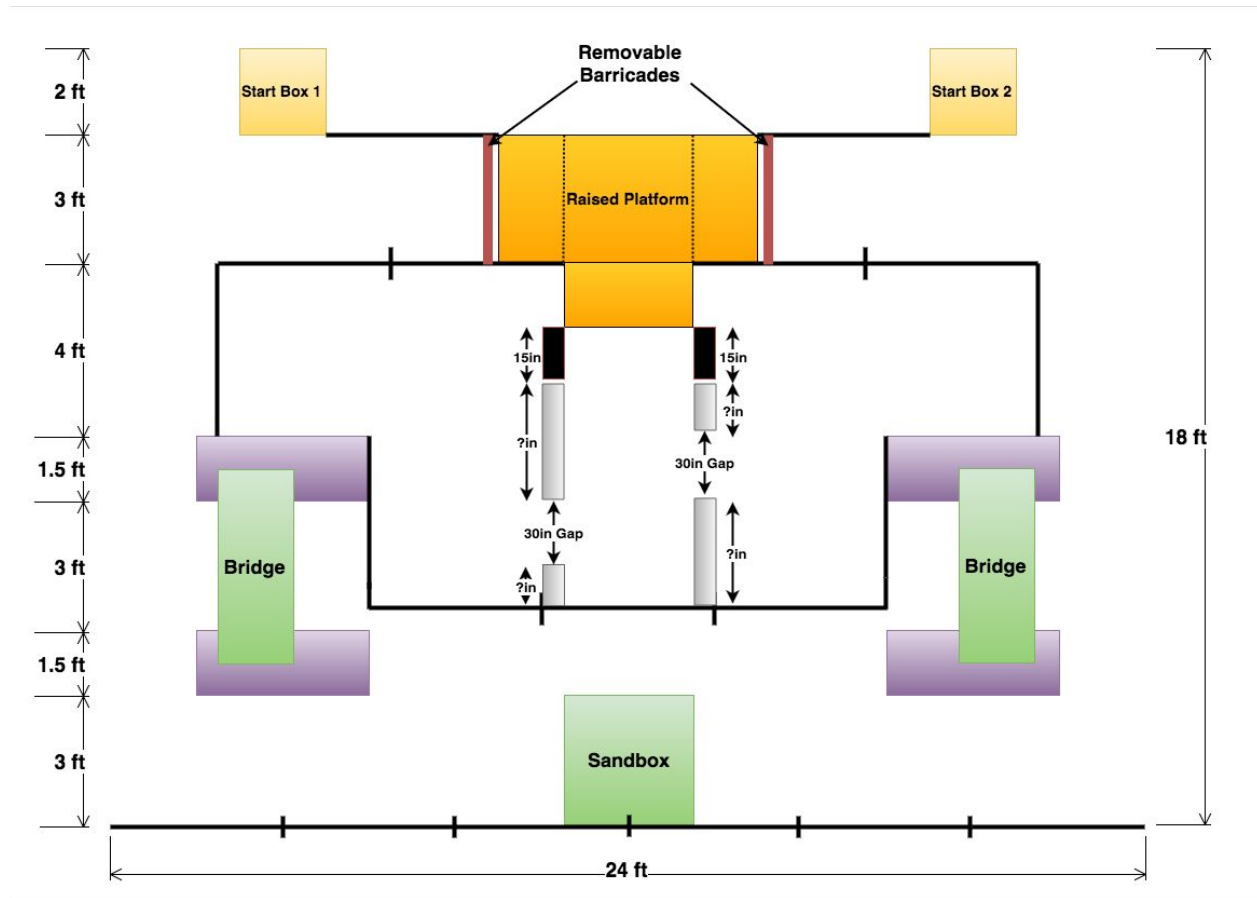

Figure 1: Schematic plan view off the playing field
The playing field (for graphical representation, see Figure 1 below) will have the following dimensions and attributes (note that your robot should take into account minor variances/error rates with every dimension listed below):
- Your robot will start in one of two predetermined starting boxes, clearly delineated on Figure 1. You will not know which starting box you will be placed in until right before the match.
- Certain portions of the outer perimeter of the playing field will be outlined with rigid barriers, approximately 28 cm high, as an aid to robot navigation. Navigation walls will also be present at certain boundaries interior to the field. A map of the locations and lengths of the navigation walls is provided in Figure 1.
- Another (known) obstacle in your path is a canyon. A bridge (designed and constructed by your team) will be placed before each match so that the outside edge of the bridge is colinear with the outside barrier of the demonstration field. (see Figure 1).